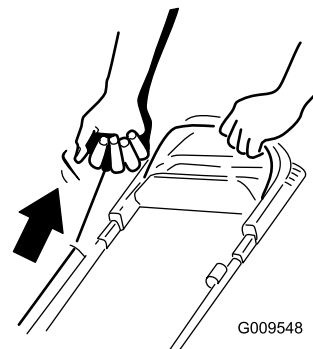

Figure 17
2. Pull the recoil-start handle (Figure 17).
**Note:** When you pull the recoil-start handle, pull it lightly until you feel resistance, then pull it sharply (Figure 17). Allow the rope to return to the handle slowly.